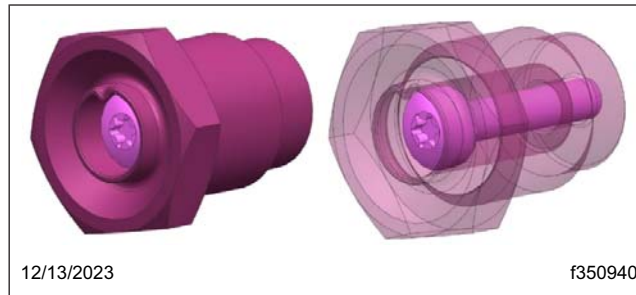

Fig. 11, Neutral Tool
73. Use a 30-mm socket to remove the neutral tool from the shift location. See **Fig. 11**.